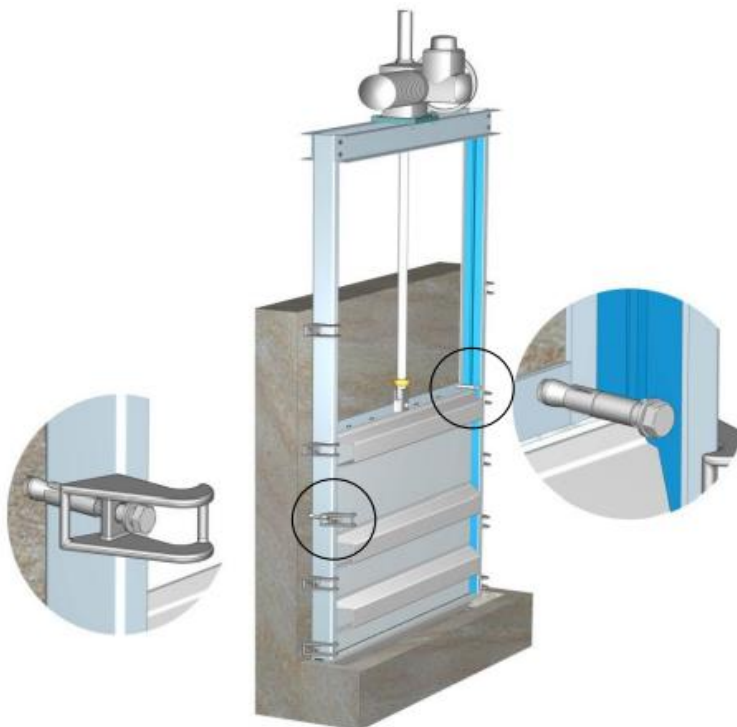

Fig. 3
- Position Sluice Gate Valve in the respective recess or in front of the wall opening to shut-off and align with plumb and level, acc. Fig. 3.